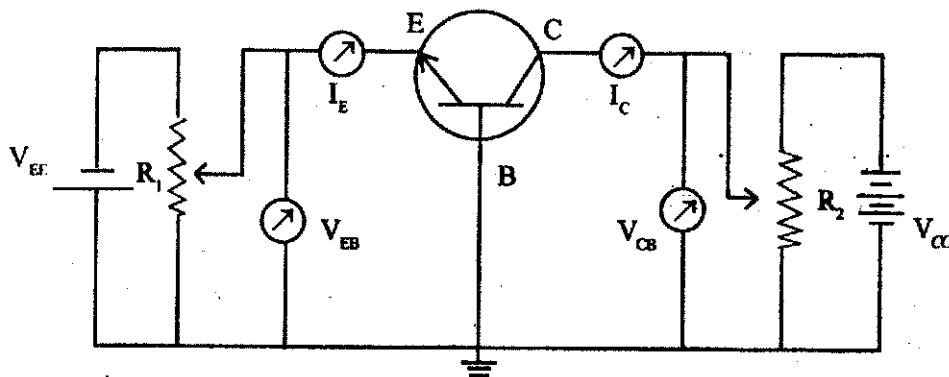
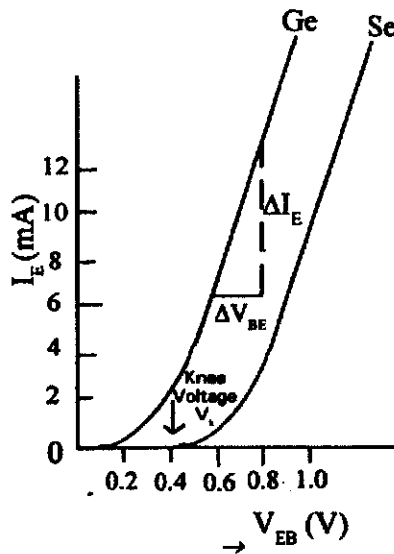
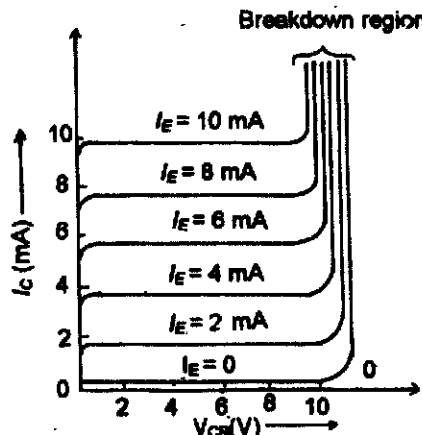

Fig. 34.22 Circuit arrangement for characteristic curves of a transistor in common base configurations
Fig. 34.23: Input Characteristics of a transistor in common base configuration
Fig. 34.24: Output characteristics of a transistor in common base configuration
The different d.c. voltage and currents in a transistor circuit are related to one-another. The curves which represent relationship between different d.c. voltage and currents of a transistor are known as characteristics of transistor. The complete electrical behaviour of a transistor can be described by these graphical representations. The circuit arrangement shown in Fig.34.22 is used to obtain the characteristic curves for the common base configuration for a p-n-p transistor. If the transistor is n-p-n, the terminals of input and output d.c. voltage sources will have to be interchanged. The two potentiometer resistors R_1 and R_2 supply variable voltages from the collector and emitter d.c. supplies. Voltmeters are connected between E and B to measure voltage V_{EB} and between C and B to measure voltage V_{CB} . Milliammeters are included in series with the emitter and collector circuits to measure I_E and I_C .
i) **Input characteristics:** These are the curves which show the relationship between the input current and input voltage for a given output voltage. For the common base configuration, these curves are obtained by plotting corresponding values of input voltage i.e. emitter-base voltage V_{EB} and input current i.e. emitter current I_E along the x and y axis respectively. First, the collector-base voltage V_{CB} is adjusted to a suitable value with the help of R_1 (Fig.34.22). Next, voltage V_{BE} is increased in small steps (i.e. of the order of 0.1 V or so) and the corresponding values of I_E are noted from the milliammeter connected in the emitter circuit. When plotted, we get the input characteristics shown in Fig.34.23, one for Ge and the other for Si. Both the curves are exactly similar to the forward characteristics of a p-n diode (what eventually the emitter-base junction is). The presence of knee voltage V_K can be seen, below which the emitter current is negligibly small. It is approximately 0.2 V for Ge and 0.5 V for Si transistors. Beyond the knee voltage, I_E increases rapidly with a small increase in V_{EB} . It means that *input resistance* (R_i) of a transistor in CB configuration is very small. Its value is given by the reciprocal of the slope of the input characteristic curve.
ii) **Output characteristics:** These are the curves which show the relationship between the output voltage and output current for a given input current. These curves are thus obtained by plotting the corresponding values of output voltage i.e. collector-base voltage V_{CB} and output current i.e. collector current I_C along the x- and y-axis respectively. The circuit of Fig.34.22 is again used. First movable contact on R_2 is changed to get a suitable value of V_{BE} and hence I_E . While keeping I_E constant at this value, V_{CB} is increased from zero in a number of steps and the corresponding collector current I_C is noted. Next V_{CB} is reduced to zero, I_E is increased to a value a little higher than before and the whole process is repeated. In this way, the whole family of the output characteristic curves is obtained (as shown in Fig.34.24). The following points can be noted from these curves:
3. I_C is practically independent of V_{CB} over the working range of the transistor. Yet, if V_{CB} is increased beyond a certain value, I_C increases due to avalanche breakdown as shown in Fig. 34.24.